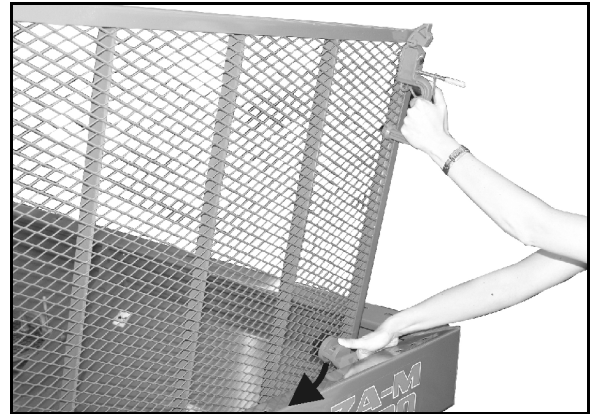

Fig. 18
3. Swing up guard screen until the lock on the edge of the hopper engages (Fig. 18).
- Before closing the guard screen, push down the lock (Fig. 18).